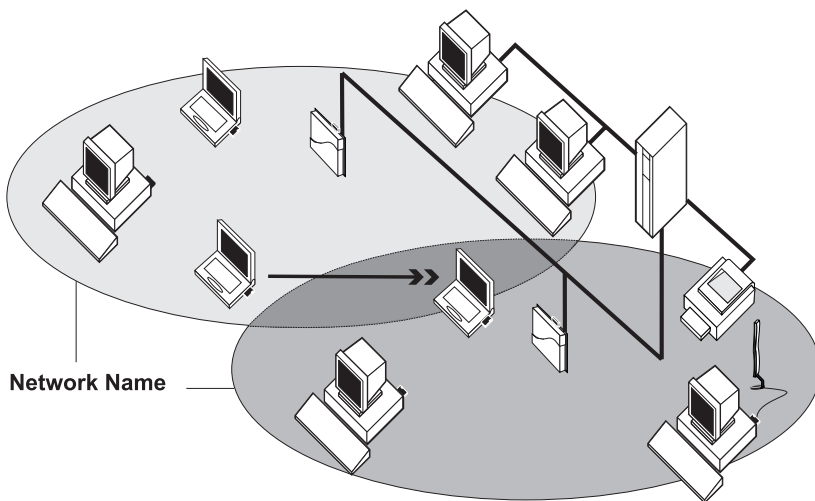

*Figure F-2 Stand-alone Wireless LAN*
- ◆ Stand-alone Wireless LANs as pictured in Figure F-2